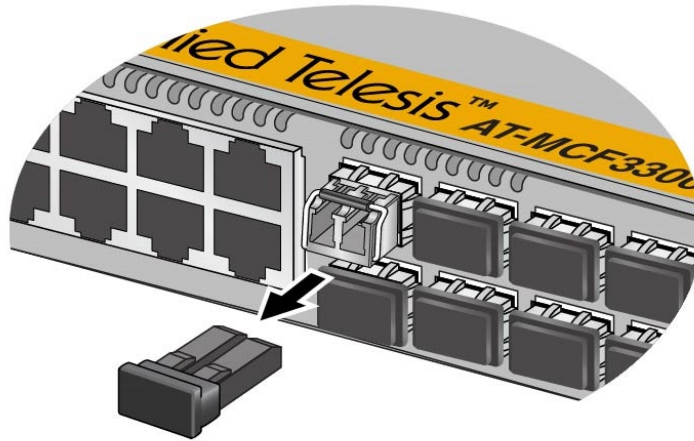

Figure 51. Removing the Dust Cover from a Transceiver
6. Remove the dust cover from the transceiver. Refer to Figure 51 on page 89.